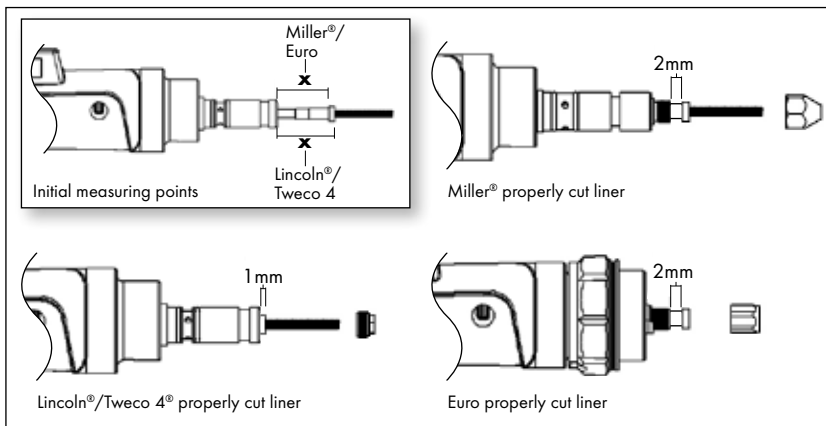

Fig. 5 Properly Cut Liners
2. While the MIG gun is laying out straight, measure the amount of liner protruding from the rear connector according to the correct measuring points as shown in Fig. 5 ("Initial measuring points"). Record this measured dimension as "x". Remove the liner and trim off the correct amount (dimension "x" -1mm or -2mm based on feeder connector type; Lincoln, Miller or Euro). Insert the liner back into the MIG gun and verify the correct 2mm gap or 1mm protrusion at the liner collet as shown in Fig. 5 for the various rear connection types.